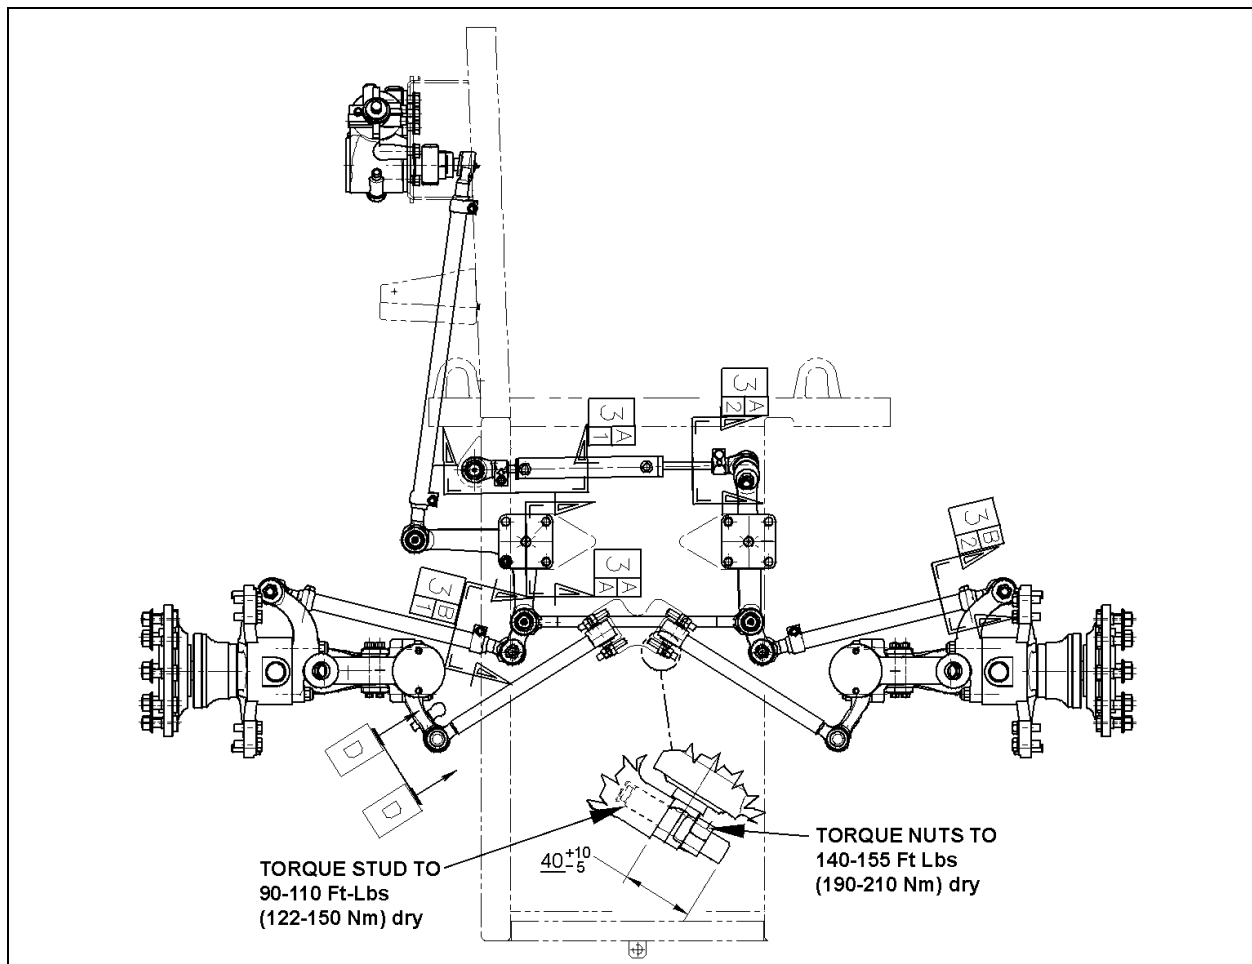

FIGURE 12: LOCATION OF CLAMPS
2. For a full left and right turn, check clamps' position and for interfering parts. Refer to figures 12 to 18 for location and positioning of clamps. If readjustment is required, make the proper adjustment.